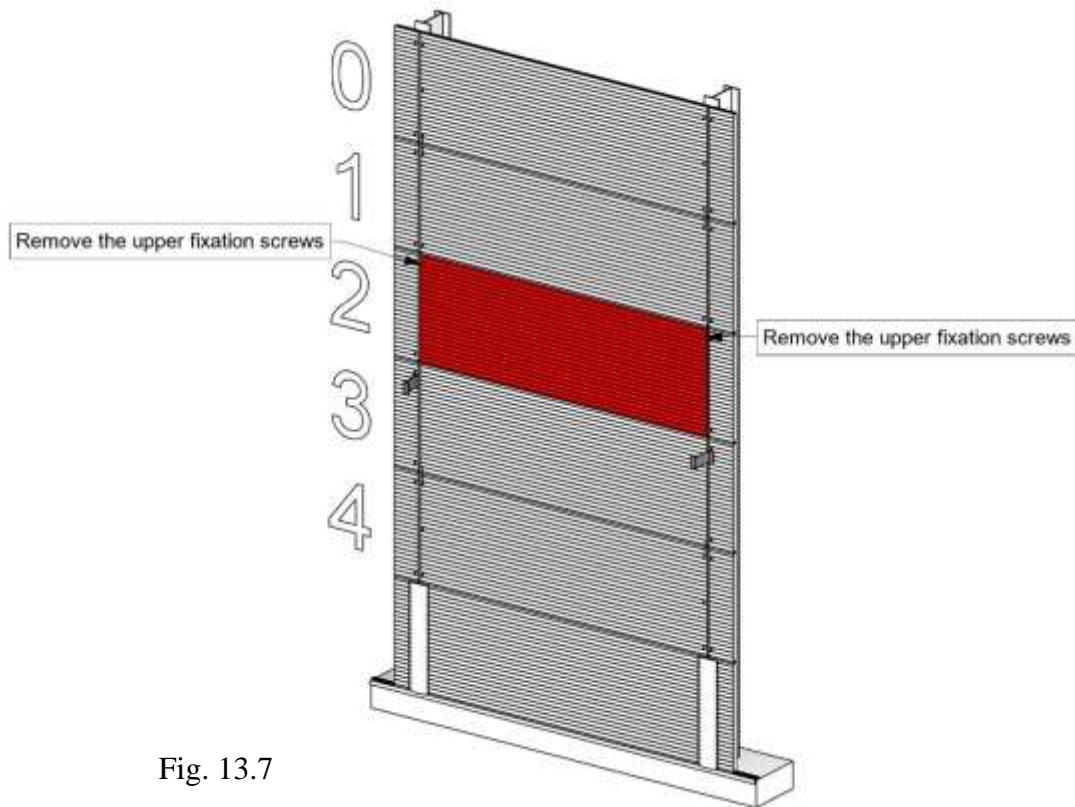
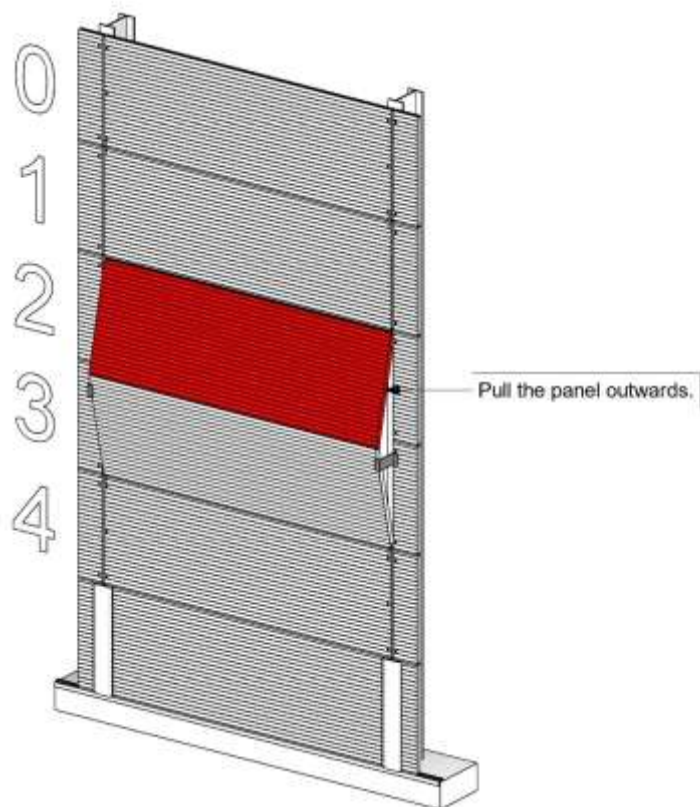

Fig. 13.7
Fig. 13.8
STEP 6. Remove the upper fixation screws from panel 2 (Figure 13.7) and pull the panel outwards (Figure 13.8). Fix the special gripping mechanism to panel 2 and remove it.